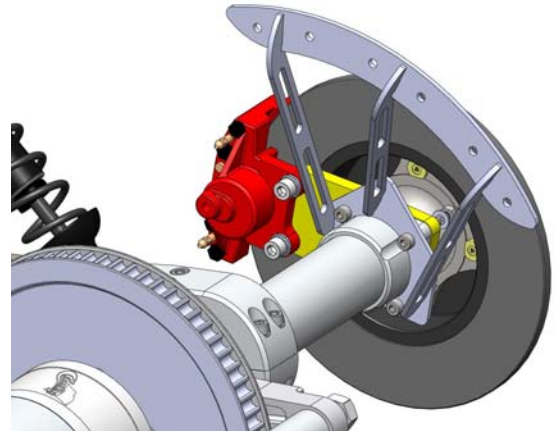

Figure 13
- a. Attach fender brackets from Box 5 to rear end housing using the supplied hardware. Torque to 19 lb. ft. Figure 13